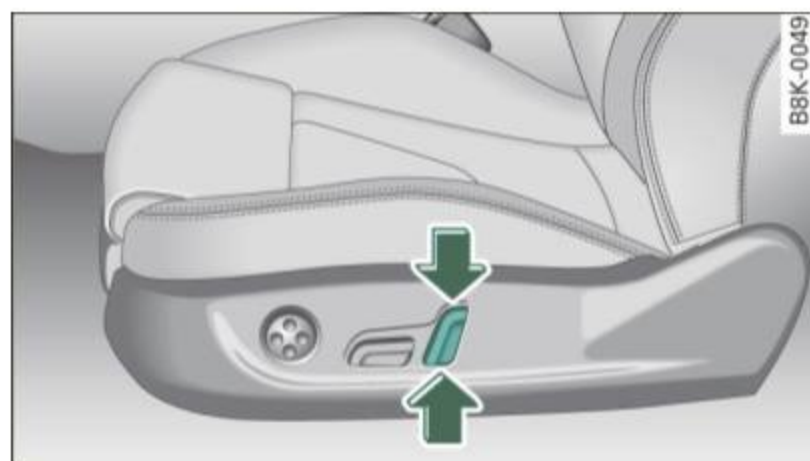

Fig. 73 Front seat:
- Push the switch up or down ⇒ fig. 73 to adjust the height of the head restraint.